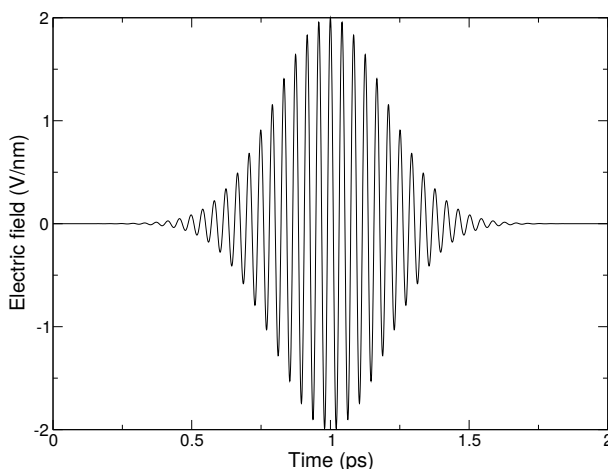

Fig. 5.48: A simulated laser pulse in GROMACS.
This simulated laser-pulse was applied to simulations of melting ice 146 (page 539). A pulsed electric field may look like Fig. 5.48. In the supporting information of that paper the impact of an applied electric field on a system under periodic boundary conditions is analyzed. It is described that the effective electric field under PBC is larger than the applied field, by a factor depending on the size of the box and the dielectric properties of molecules in the box. For a system with static dielectric properties this factor can be corrected for. But for a system where the dielectric varies over time, for example a membrane protein with a pore that opens and closes during the simulation, this way of applying an electric field is not useful. In such cases one can use the computational electrophysiology protocol described in the next section (sec. *Computational Electrophysiology* (page 481)).
yields an pulsed-oscillating electric field with  $E_0 = 2$  V/nm,  $\omega = 150$ /ps and  $t_0 = 5$  ps and  $\sigma = 1$  ps. Read more in ref. 146 (page 539). Note that the input file format is changed from the undocumented older version. A figure like Fig. 5.48 may be produced by passing the `-field` option to *gmx mdrun* (page 184).